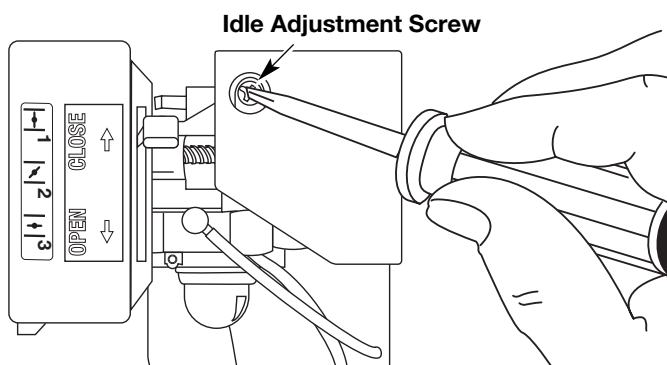

Fig. 22
The idle speed of the engine is adjustable. An idle adjustment screw is reached through a hole in the top of the engine cover (Fig. 22).
- Release the throttle trigger and let the engine idle. If the engine stops, insert a small phillips or flat blade screwdriver into the hole in the air filter/muffler cover (Fig. 22). Turn the idle speed screw in, **clockwise**, 1/8 of a turn at a time (as needed) until the engine idles smoothly.